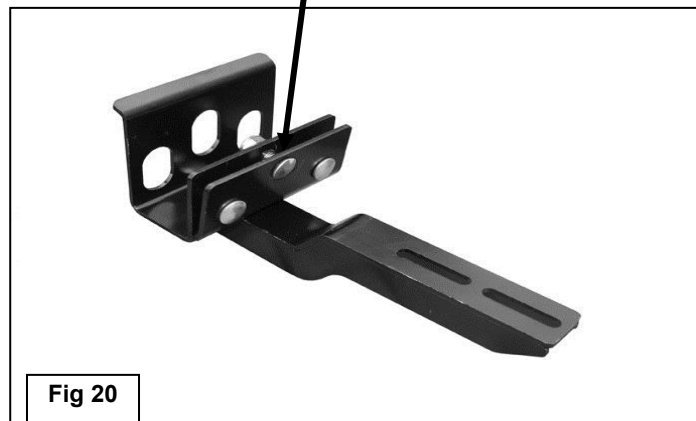

Fig 20
16. Reinstall the center Bracket assembly, (**Figures 20 & 21**). Line up the outer Clamp Plate with the drilled hole. Pull the plastic cover back a little, (**Figure 21**), and insert (1) 8mm Carriage Bolt through the center hole in the Outer Clamp Plate, the drilled hole and into the Bracket. **IMPORTANT:** Release the factory plastic clips in the bottom of the plastic rocker cover for easier installation of the 8mm Carriage Bolt, (**Figure 21**).. Secure the Bracket to the center bolt with (1) 8mm Flat Washer and (1) 8mm Nylon Lock Nut, (**Figures 22 & 23**).